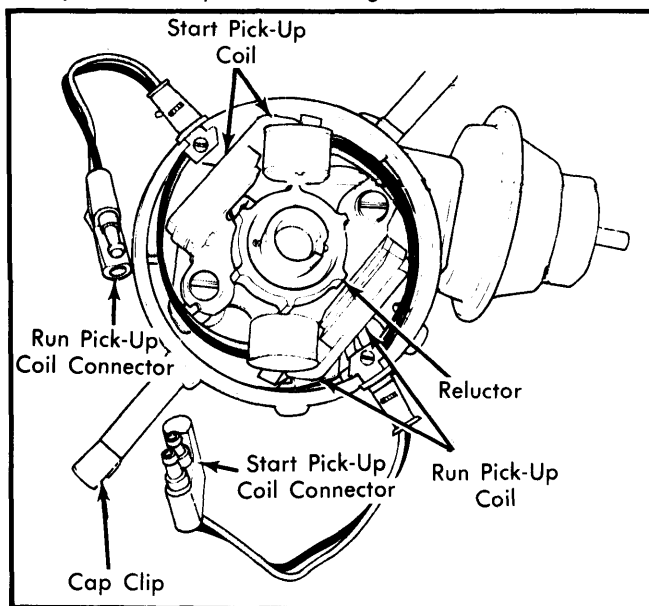

Fig. 2 Location of Magnetic Pick-Up Assembly
- **Start Pick-Up Coil** — Supplies a signal to SCC which will cause the spark plugs to fire at a fixed amount of advance during cranking only. This coil is permanently positioned in distributor and the amount of advance will be determined by distributor position. See Fig. 2.
- **Run Pick-Up Coil** — Once engine begins to run, the start pick-up coil signal is by-passed and the run pick-up coil supplies advance information to SCC. The SCC then modifies advance information to reflect other engine operating conditions supplied by other sensors. See Fig. 2.